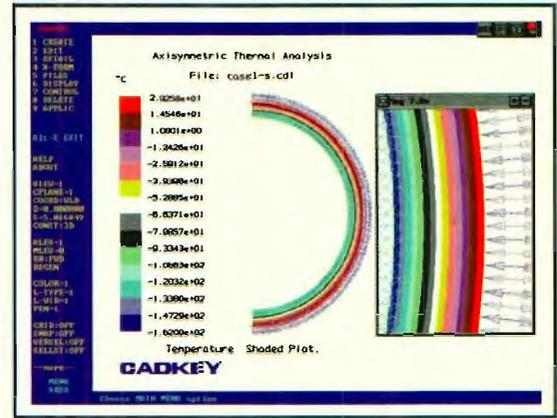

Figure 3
- (1) Figure 3 which describes the temperature distribution of the sphere was created using the following steps: